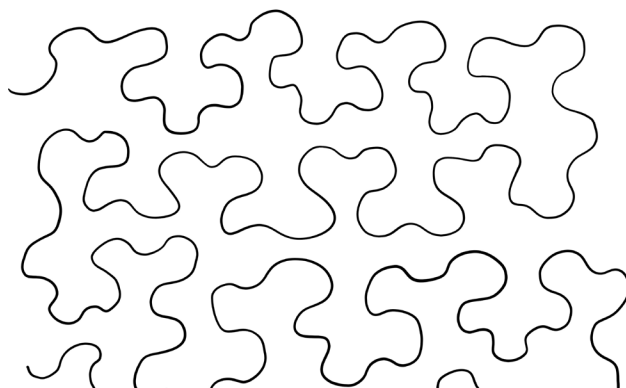

Fig. 24
6. Select Mode 2. Practice filling in the other half of your sandwich with meandering curves (Fig. 24) in this mode. Try designs with smoother curves and no points, like pebbles or stippling.